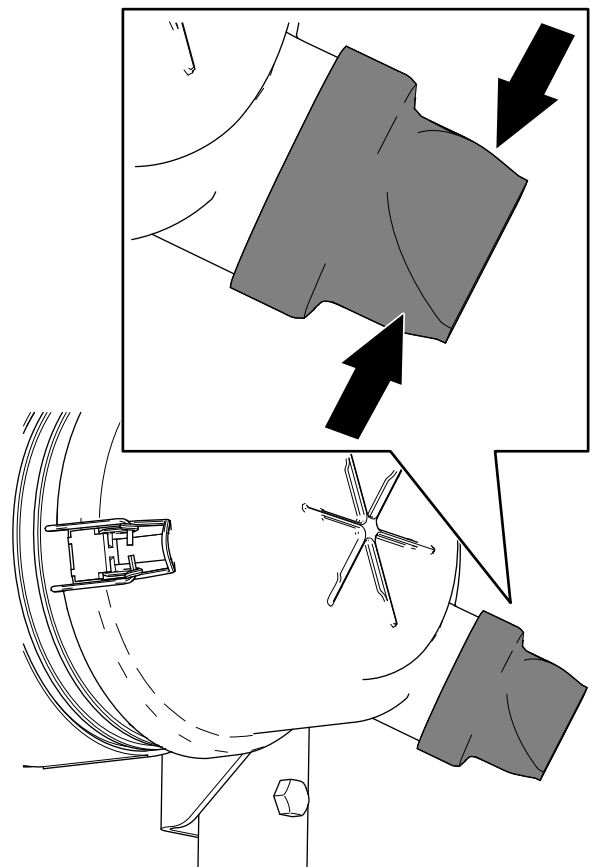

**Figure 112**
3. Check the service indicator at the end of the air filter housing (Figure 112).